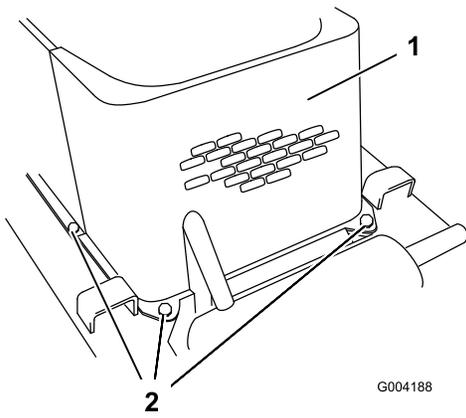

Figure 22
5. Remove the 4 bolts securing the front screen to the traction unit frame (Figure 22).